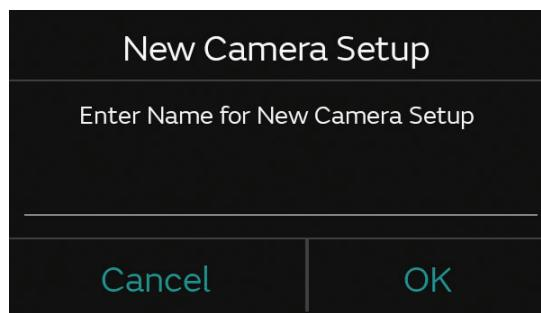

Figure 22. Name of new Camera Setup
5. **Enter** the name of the New Camera Setup and tap **OK** (Figure 22).
8. Enter the name of the New Camera Setup refer to (Figure 22) and tap **OK**.